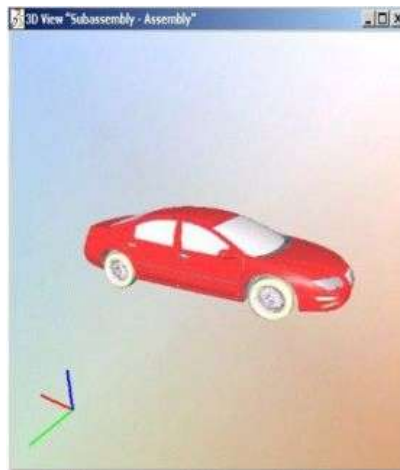
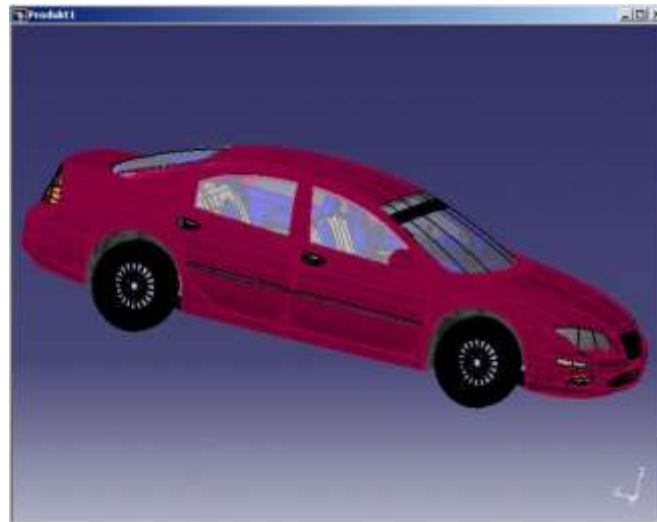

Figure 148: Internal Product View – Entire Picture
Figure 149: Product View from External Program – Entire Picture
- 4) Select the product in the dialog. Then click **OK**. The graphic is opened. *Please refer to the Figure 148 and Figure 149.*